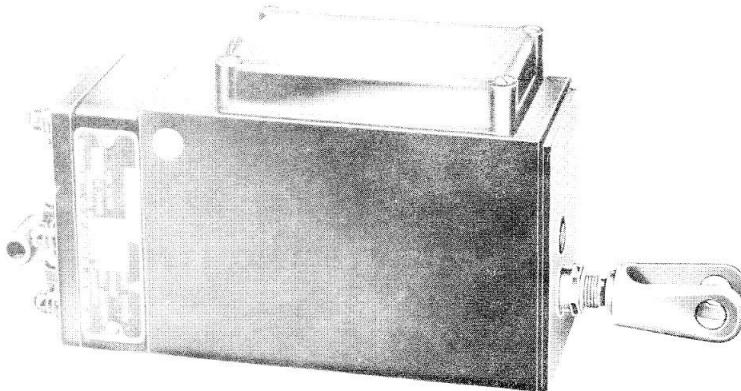

Fig.1 General view of actuator, Type AE 4028
1. The linear actuator, Type AE 4028 (*Fig.1*) has been designed to provide remotely controlled linear motion against tensile and compressive loads up to a maximum of 150 lb.